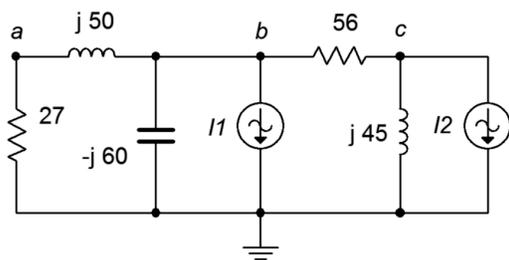

Figure 6.17
33. Given the circuit in Figure 6.17, determine  $v_c$ .  $I_1 = 3 \angle 0^\circ$ ,  $I_2 = 2 \angle 0^\circ$ .
34. Use nodal analysis to find the current through the  $j45 \Omega$  inductor in the circuit of Figure 6.17.